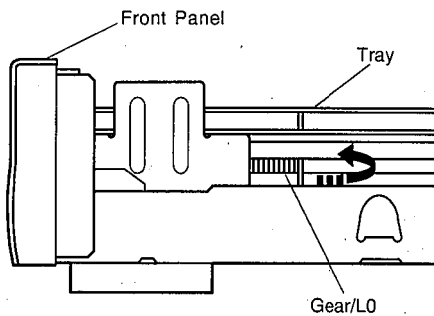

Fig. 2
- b. Turn Gear/L0 as shown in Fig. 2 counter clockwise gradually till immediately before the tray starts to move and stop it there.